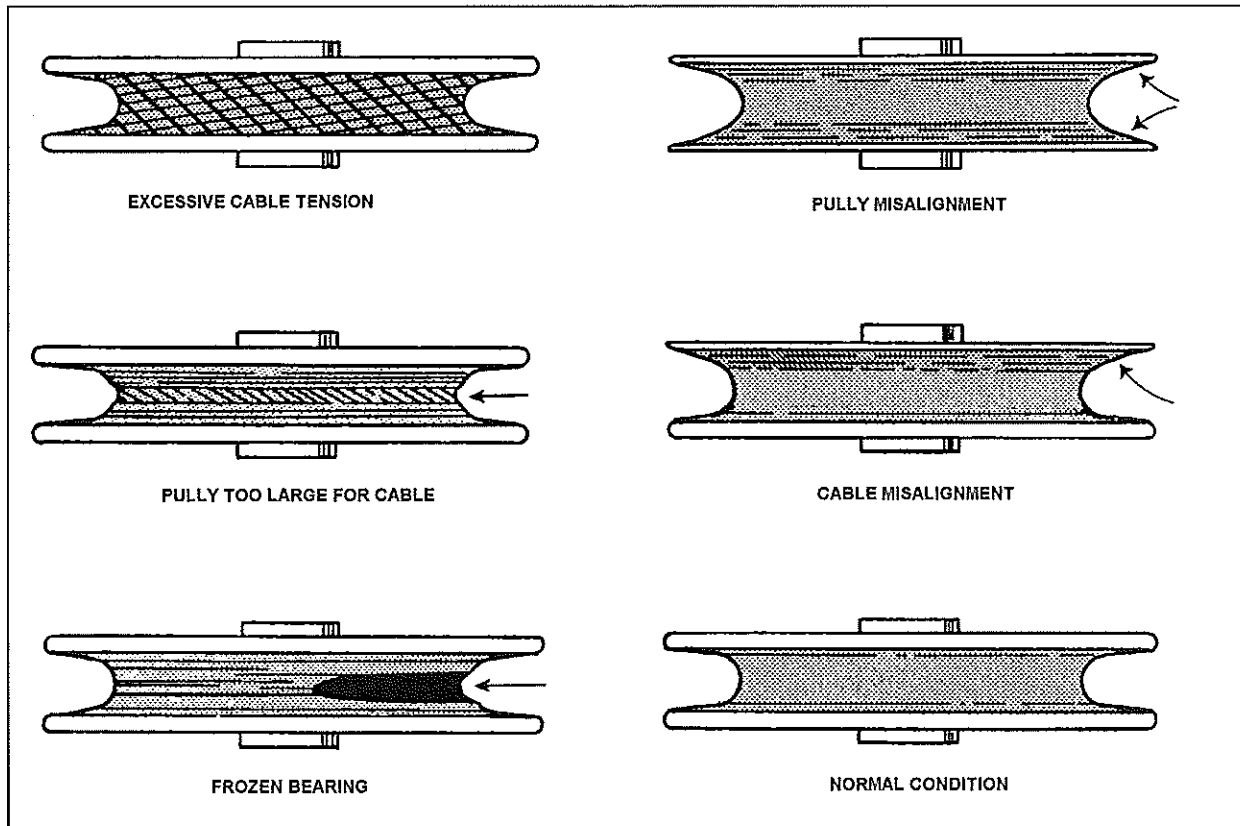

FIGURE 7-20. Pulley wear patterns.
**m. Various cable system malfunctions** may be detected by analyzing pulley conditions. These include such discrepancies as too much tension, misalignment, pulley bearing problems, and size mismatches between cables and pulleys. Examples of these condition are shown in figure 7-20.